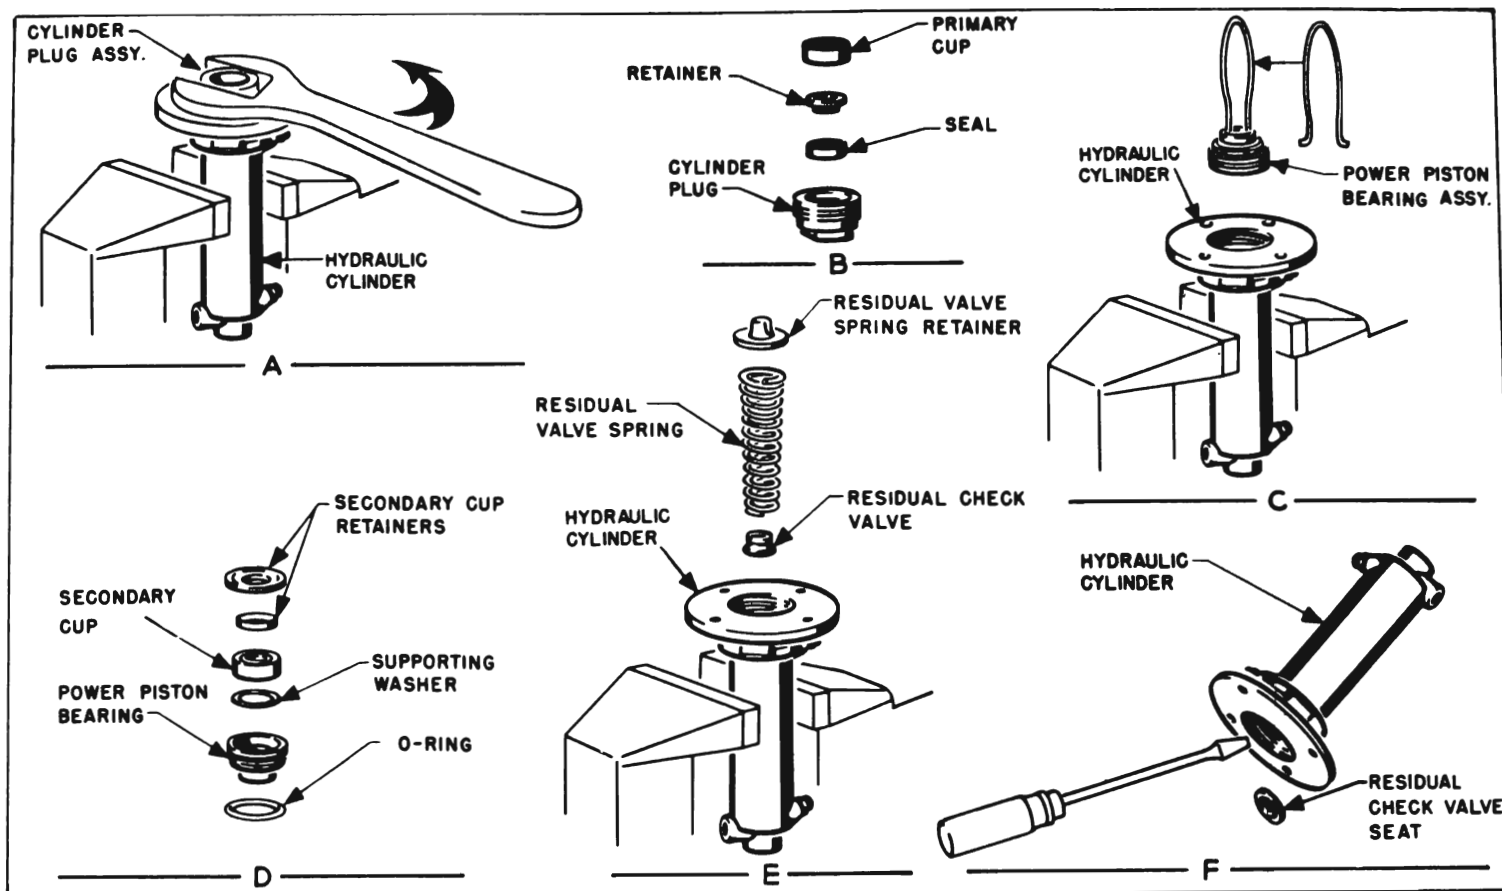

Figure 8-10—Disassembly of Hydraulic Cylinder
2. Mount hydraulic cylinder assembly in bench vise with flange end up; *do not grip tightly*. Unscrew and remove the cylinder plug assembly. See figure 8-10, view A.
3. Remove primary cup, retainer and seal from cylinder plug. See figure 8-10, view B.
4. Bend a piece of wire (.072" max. dia.) as shown in figure 8-10, view C and insert ends into two opposite holes in the bore of power piston bearing, being careful to avoid marring the inside surface of bearing.
6. Remove secondary cup retainers, then remove O-ring and secondary cup from bearing. Do not remove blue steel cup supporting washer unless damaged, in which case it can be removed by blowing air through a small hole in bearing. See figure 8-10, view D.
7. Remove residual valve spring retainer, spring, and valve from hydraulic cylinder. Pry valve from end of spring. See figure 8-10, view E.
8. Remove residual check valve rubber seat from inner end of hydraulic cylinder, seat will drop out when loosened with screwdriver. See figure 8-10, view F.